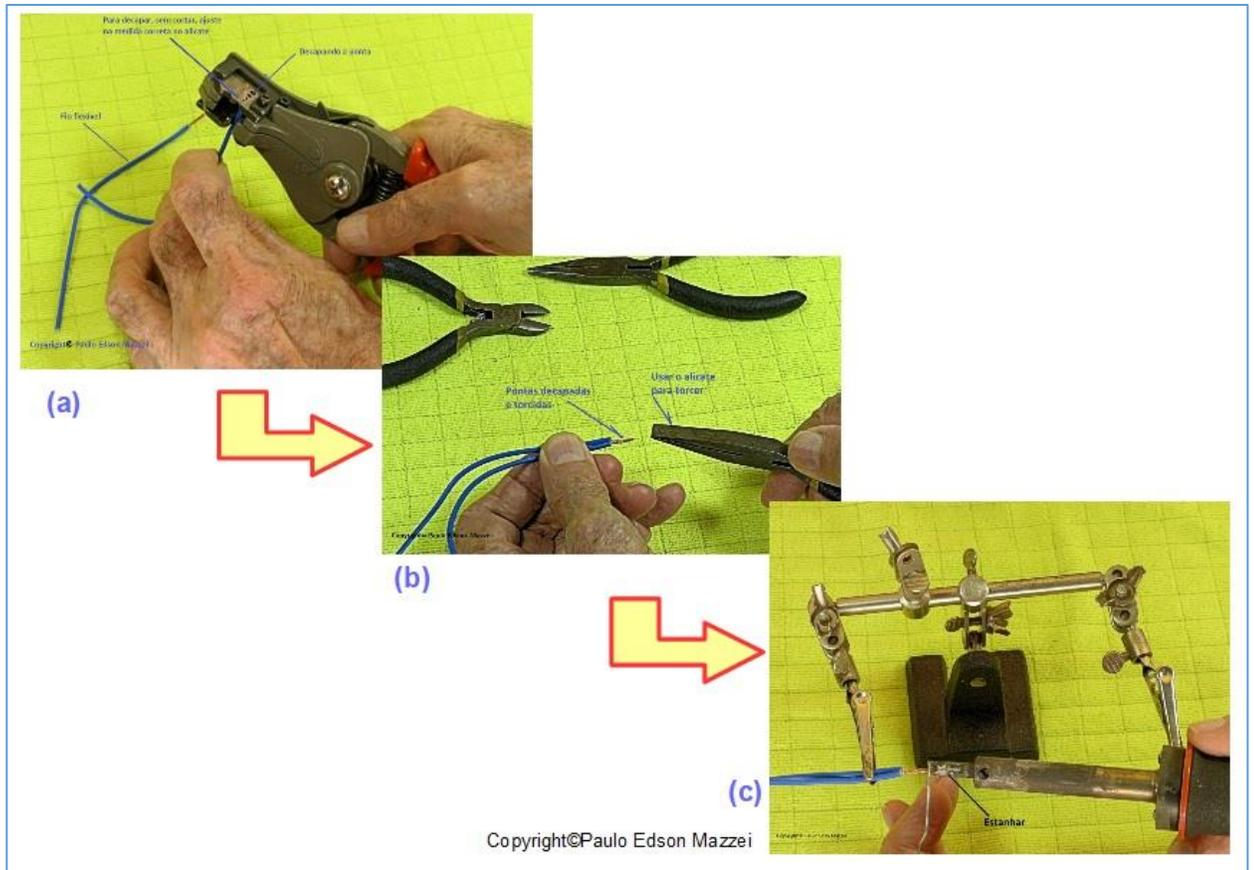

Figure 216 – Preparing the wire sans soldering.
- See the result of your soldering, in **Figure 216, 217 and 218**.